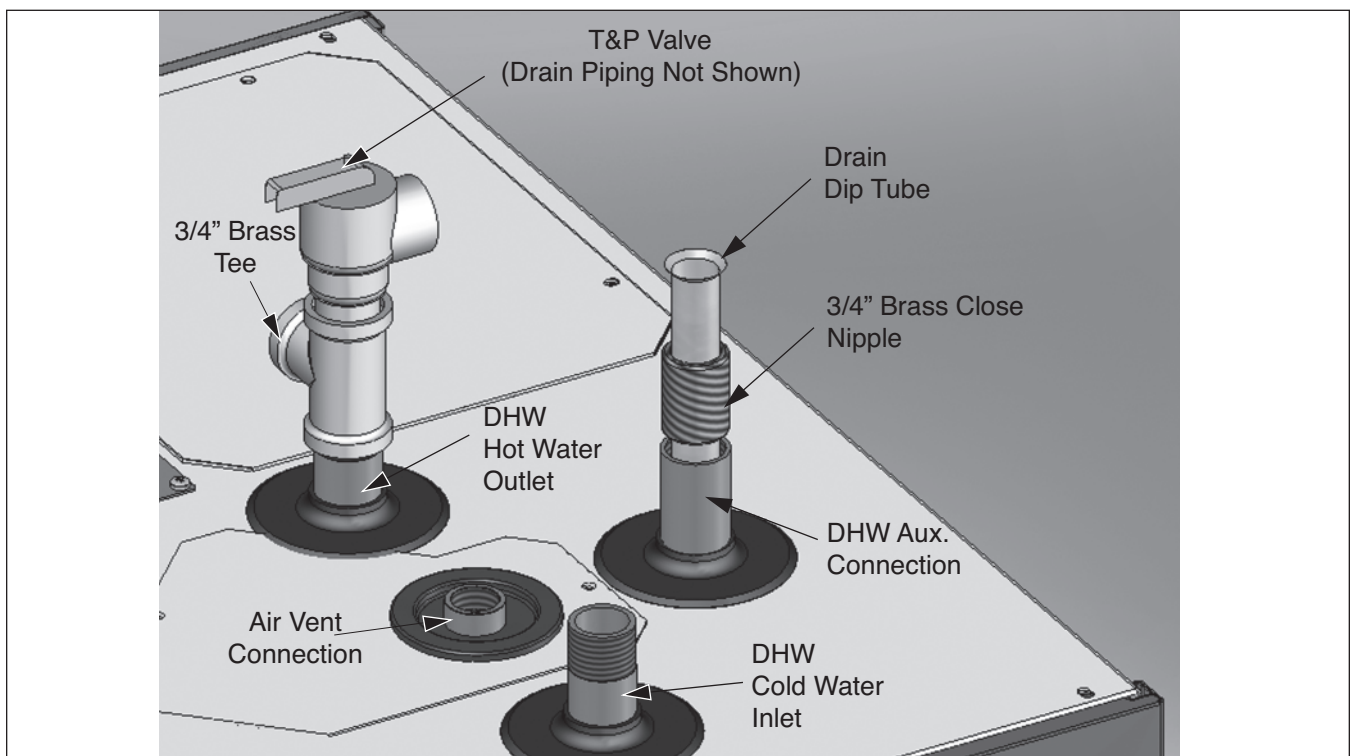

Fig. 3: Commonwealth of Massachusetts Installation
- Install the T&P in the run (straight through leg) of a tee located at the domestic hot water outlet. Use a long element T&P relief valve, as shown in Fig. 3 page 8.
- Thread a 3/4" close nipple onto the Auxiliary connection and insert an open-end dip tube into the Auxiliary connection on top of water heater. As shown in Fig. 3, page 8.